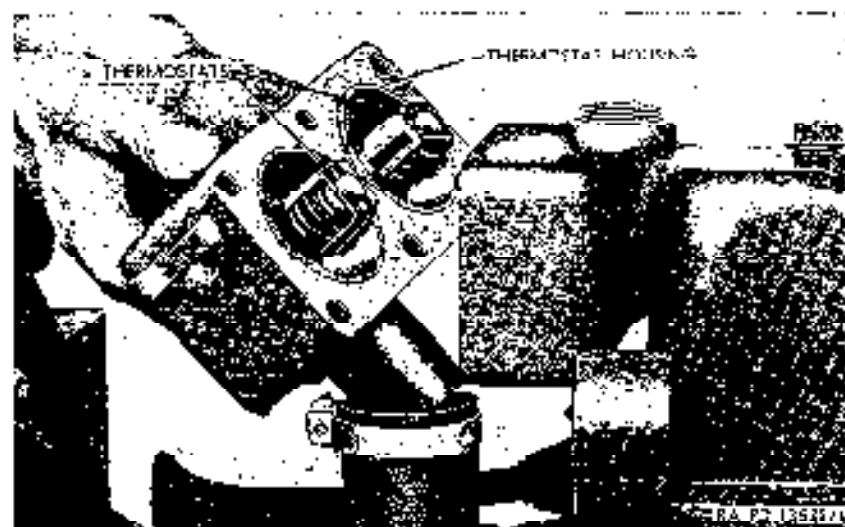

Figure 136. Removing thermostat housing from water outlet header.
- (f) Remove six cap screws (fig. 136) and lockwashers securing fan to fan pulley hub, and remove fan.
(2) Installation.
- (a) Position fan (fig. 136) at front of fan pulley hub, and install six cap screws and lockwashers and tighten.